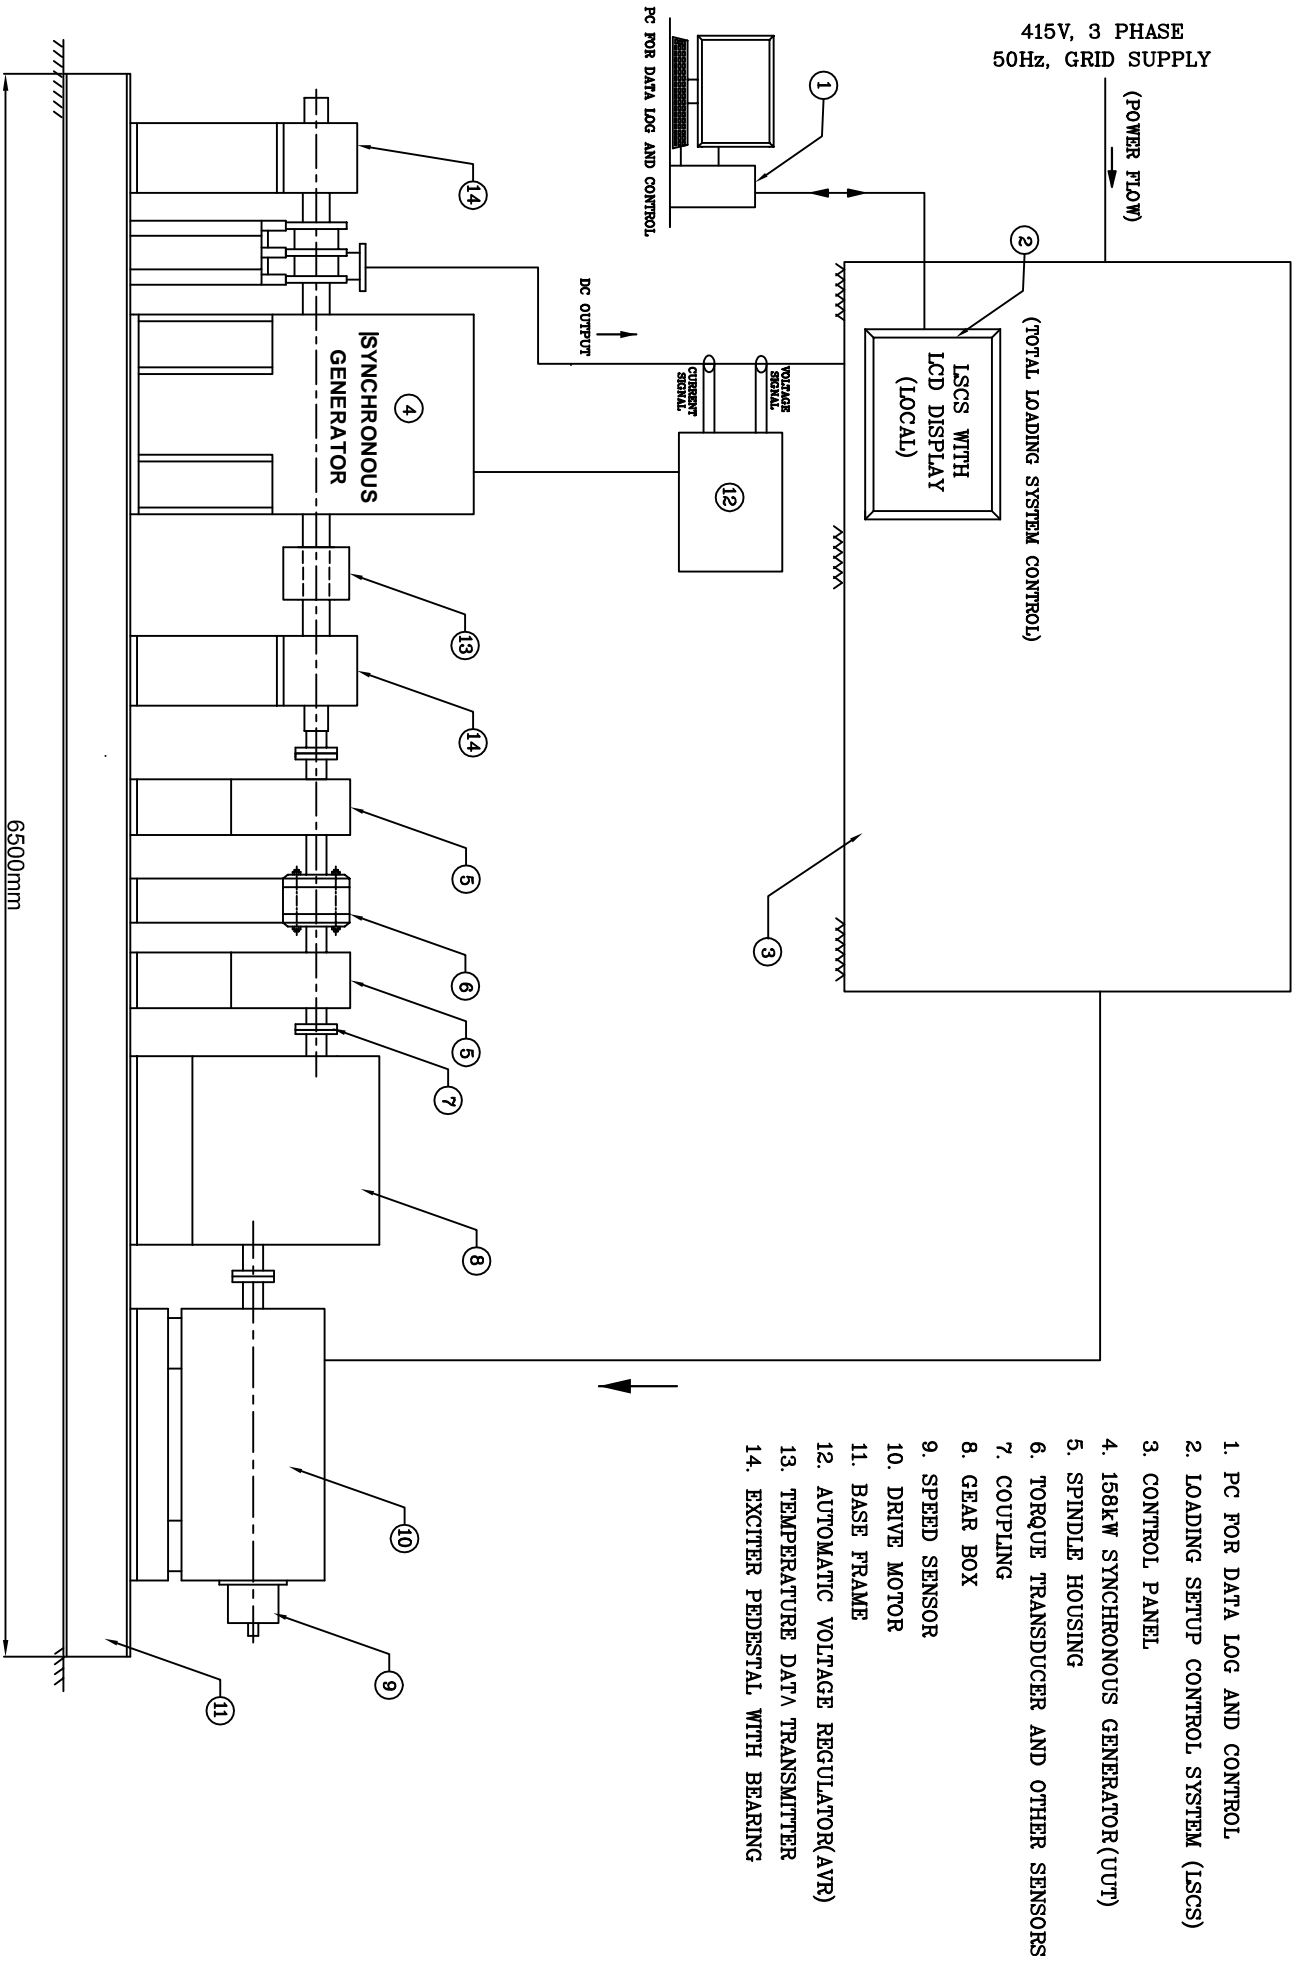

Fig.1 SCHEMATIC DIAGRAM OF 158kW SYNCHRONOUS GENERATOR LOADING SET-UP
26. Base frame: All above mechanical components shall be mounted on a common base frame – fabricated – suitably engineered for Static, Dynamic and Transient conditions with sufficient space for Synchronous Generator mounting as per Fig. 1.